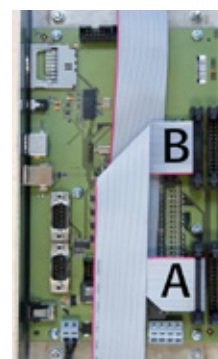

Fig. 3.1-29
Step 23: Attach the connectors of the ribbon cables "A" and "B" with the control unit in the correct frame part as shown in (**Fig. 3.1-29**).